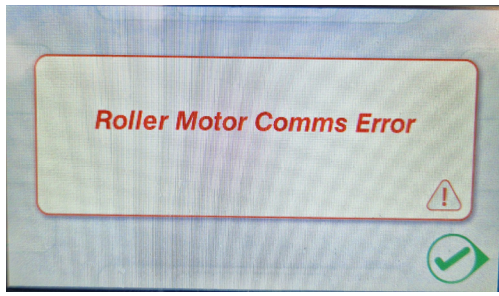

Fig.7C - All other machines not on charge will display the 'Roller Motor Comms Error' on their screen.
8. Screens on the machines will indicate their charging status; "Charging in Progress" for the current machine being charged (Fig.7B) and "Roller Motor Comms Error" (Fig.7C)